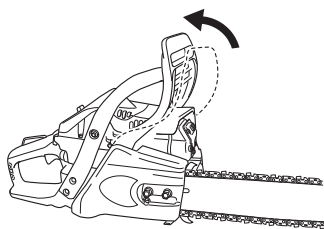

Fig. 17
9. Make sure chain brake is disengaged. (Fig. 17) Allow the engine about 2-3 minutes to warm up before subjecting it to any load. Do not run the engine at high speed unnecessarily without the load to avoid shortening the life of the engine. For about 10 hours since the first use of the chain saw after purchase, do not run the engine at high speed (rev up the engine) unnecessarily without the load in order to warm up each part of the engine.